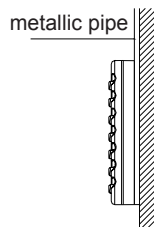

Figure 1:
2. If the control wire between the wire controller and the indoor unit is surface-mounted, use 1# metallic pipe and make matching recess in the wall (Refer to Figure 1); If concealed installation is adopted, 1# metallic pipe can be used (Refer to Figure 2).